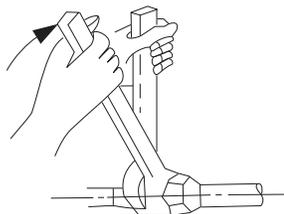

Fig. 14 – Tighten Flare Nut
8. Tighten flare nut and finish installation using two wrenches as shown in Fig. 14.
10. Connect refrigerant piping and drain line outside of indoor unit. Refer to *Piping Connections to Outdoor Unit* section and Fig. 14 for proper installation of flare connections. Complete pipe insulation at flare connection then fasten piping and wiring to the wall as required. Completely seal the hole in the wall.